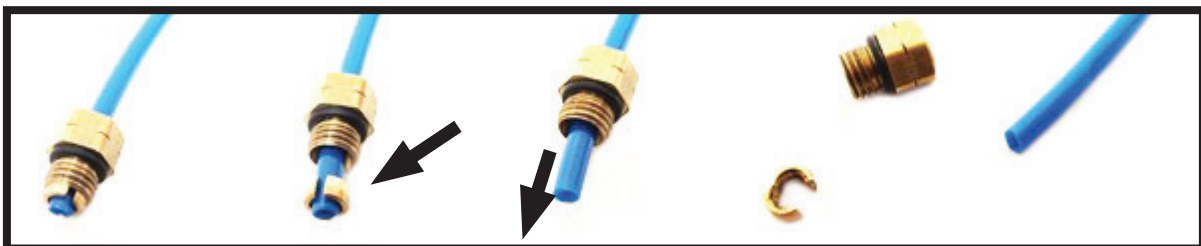

FIGURE 16
6. REMOVE THE AIR LINE FITTING. TO DO SO, SPREAD THE COLLET OPEN AND THE REMAINING FITTING WILL SLIDE OFF OF THE AIR HOSE. (FIGURE 16)